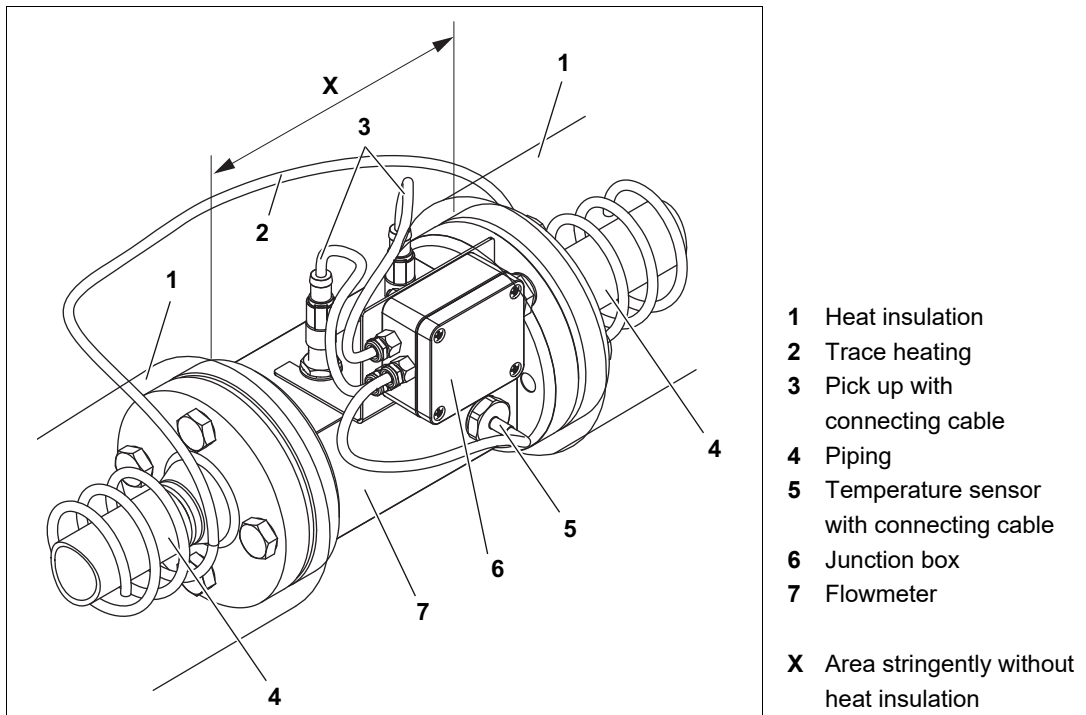

Fig. 2 Flowmeter with trace heating system
▶ Ensure that pick up 3, temperature sensor 5, junction box 6 and corresponding cables are not heat insulated. The area X has to be free of heat insulation, see Fig. 2, page 10.